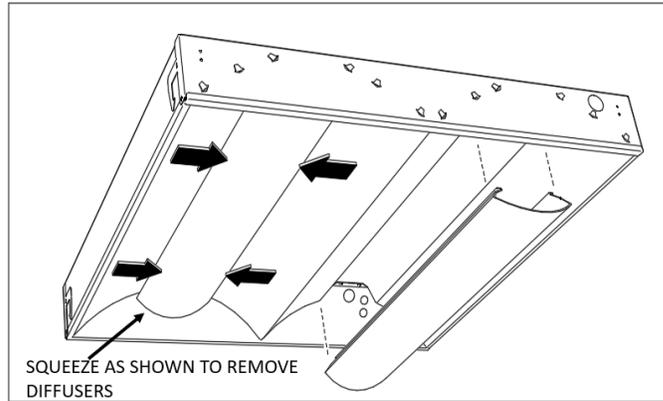

Figure 3: Diffuser Removal/Installation
- The diffuser does not require removal and can be cleaned from the outside. However, if maintenance of LEDs is required, the diffuser is removable(See Figure 3). Installation is reverse of removal. After installation, check that diffusers are securely held by all diffuser tabs in housing(4 tabs per lens).